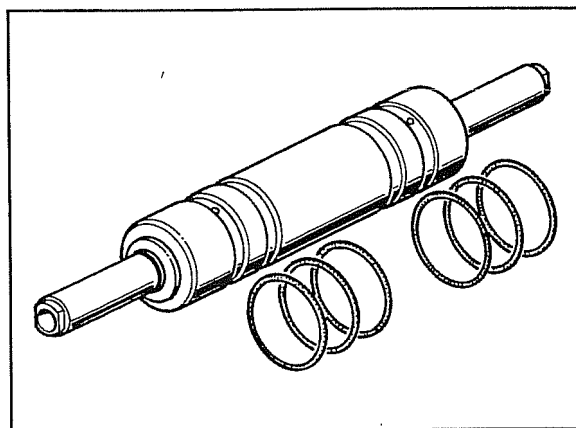

Fig. 80
16. Fig. 80 shows the cylinder with the O-rings to be replaced.